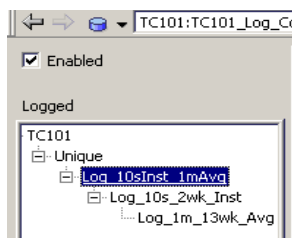

Figure 165. Activating/Deactivating a Property Log
2. Use the **Enabled** check box to activate (checked) or deactivate (unchecked) all logs in the property log, Figure 165.